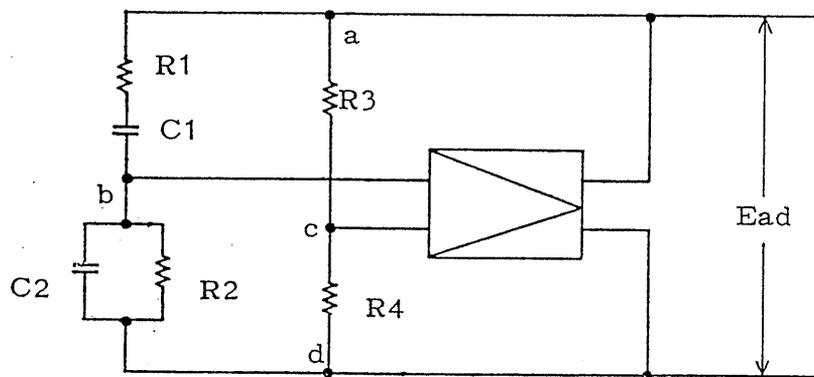

Fig. 4 Wien bridge oscillator circuit
Among low frequency oscillators, RC oscillators which employ R and C as frequency-determining elements are most common. Among RC oscillators, Wien bridge type is most popular. The Wien bridge has many advantages over other oscillation circuits. Its frequency is easily variable, and small distortion. The operating principle of the Wien bridge oscillator circuit is shown in Fig. 4.
Referring to Fig. 4, the phase of Ebc becomes the same with that of Ead when the below condition is satisfied.
The conditions of oscillation are determined by equations (1) and (3), and they are not related with the oscillation amplitude. Therefore, the condition of equation (3) must be maintained until the oscillation builds up to the required amplitude. Then the circuit must satisfy the condition of equation (4). To accomplish this requirement, the resistance of R3 or R4 in Fig. 4 must automatically vary in response to the oscillation amplifier. This is accomplished by using a thermistor as for R3.